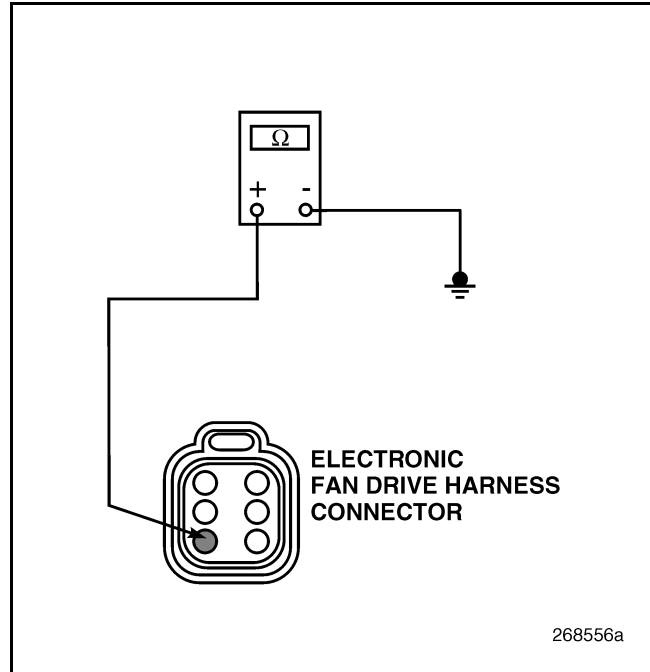

Figure 131
4. Check for continuity between electronic fan drive harness connector pin 3 and a good ground (see Figure 131).